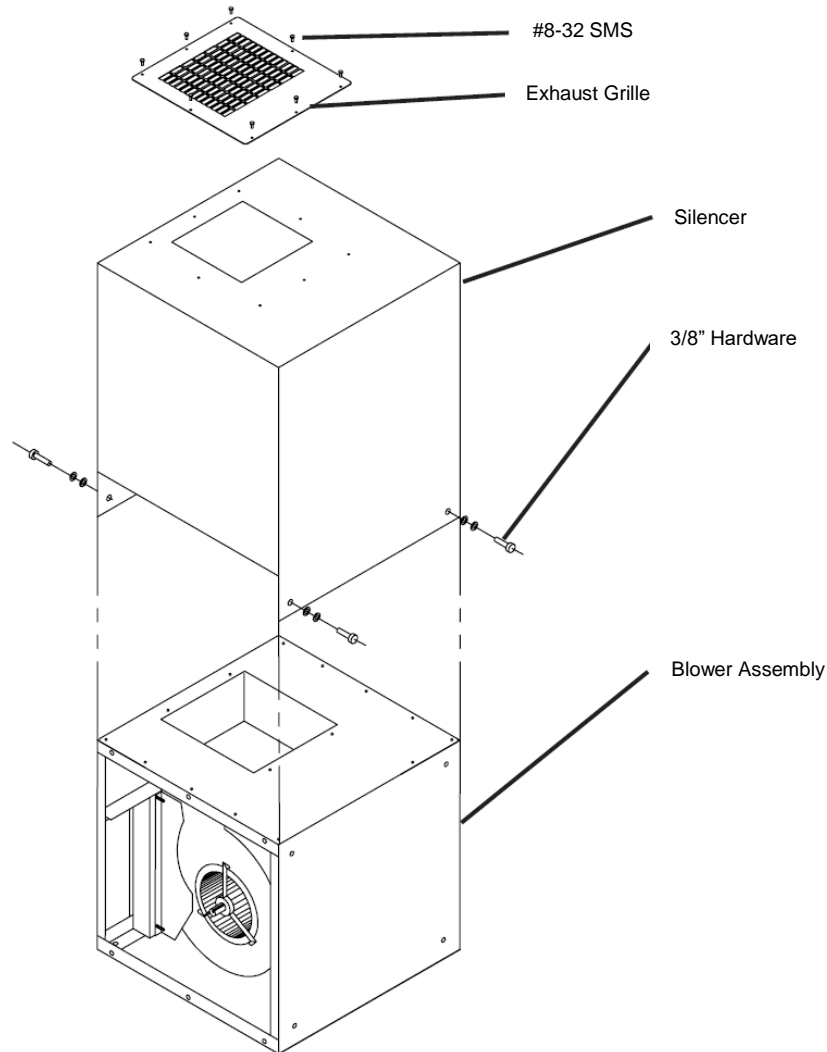

FIG. 6
1. Remove exhaust grille from unit as shown in Fig. 6.